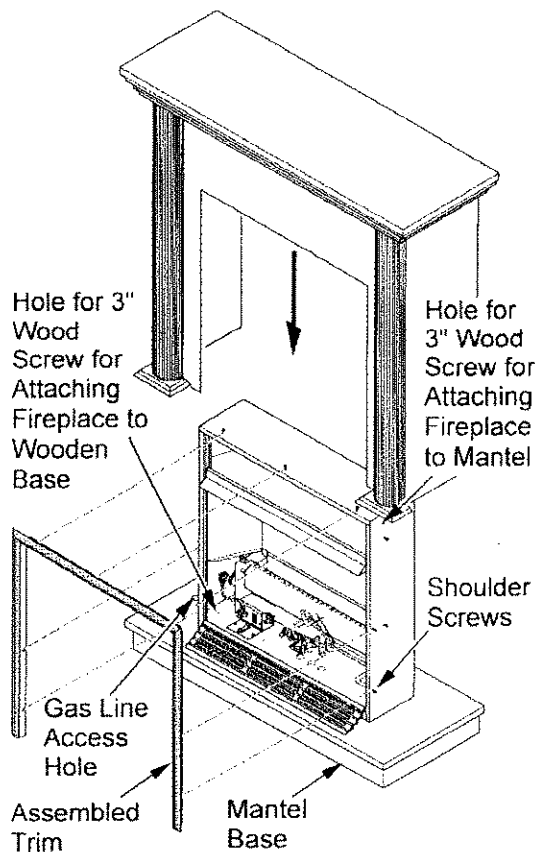

Figure 12 - Attaching Perimeter Trim, Mantel and Base
3. Place fireplace on wood base (see Figure 12, page 13).
4. Place mantel around fireplace on base (see Figure 12, page 13).
6. Firmly snap perimeter trim kit on shoulder screws. Shoulder screws are located on fireplace cabinet (see Figure 12, page 13).
9. Use two 3" wood screws provided and attach base of fireplace to wooden mantel base (see Figure 12, page 13).
- Cut an access hole in base to run flexible gas line to fireplace (see Figure 12). Make sure to locate access hole so mantel will cover it when installed. **Note:** You can secure base to floor using wood screws. Countersink screw heads and putty over.
- Place perimeter trim kit on the shoulder screws located on the side and top of the fireplace. Firmly snap trim over shoulder screws on fireplace (see Figure 12).
- Adjust assembly to remove any gaps. Attach remaining two 3" wood screws from hardware pack through openings inside of fireplace sides into the mantel. The openings are located at top behind the area for top louver (see Figure 12).
- Open lower louver door by swinging door down (see Figure 12).